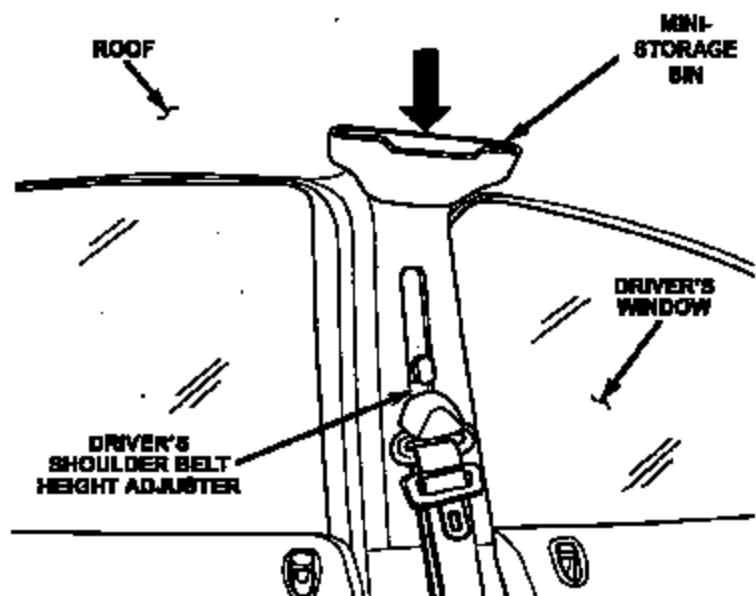

Figure 2 - Driver's Side Shown
3. Slide the mini-storage bin downward until the storage bin clips are attached to the top edge of the trim panel. Make sure that the two clips on the backside of the storage bin are fully seated on the trim panel (Figure 2).